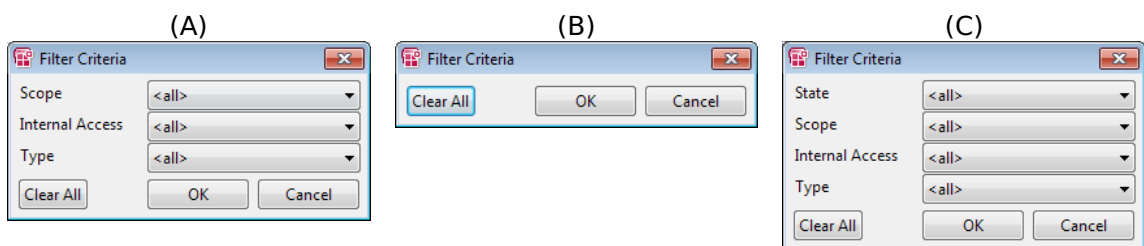

Figure 4.17: "Filter Criteria" windows
- In the column you want to filter, click on the  button. The respective "Filter Criteria" dialog window (Figure 4.17 on page 35) opens.